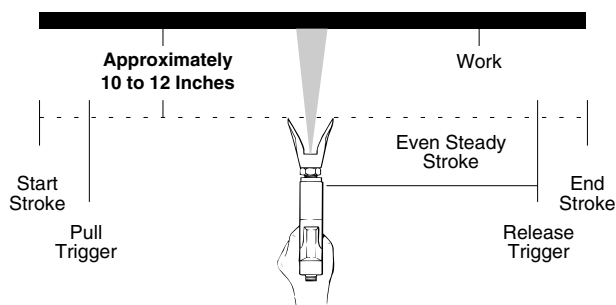

Figure 28 - Proper Way to Trigger Spray Gun
5. The spray gun should be triggered off at the end of each stroke and on again at the beginning of the next. This avoids paint buildup at the end of the stroke which may result in runs and sags. Triggering at the end of the stroke also saves paint and results in a better looking job. See Figure 28.